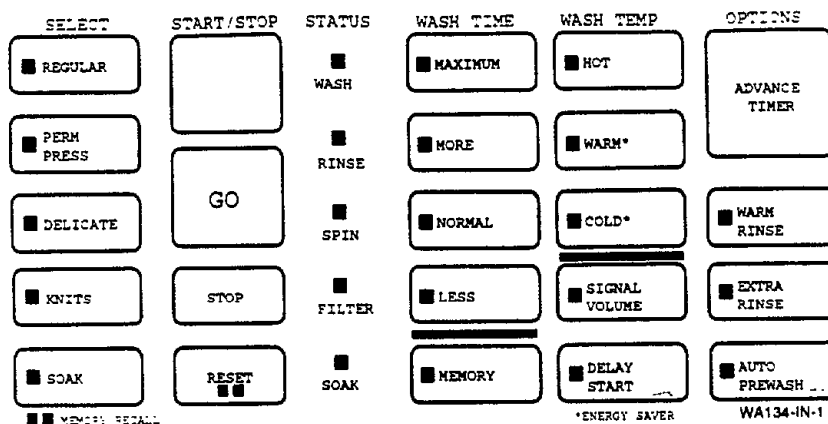

Figure 76
IMPORTANT: This procedure is intended to be used as an aid in diagnosing potential problems with the electronic control, *Figure 76*. Refer to SECTION IV (Service Helps) for diagnosing problems with components other than the electronic control. See *Figure 77* for terminal numbers, connections and color coding.
1. This test routine will only light the LED's (Light Emitting Diodes) pertaining to the hardware model selected. The LED lights are located to the left of the SELECT cycle and OPTIONS pads, *Figure 76*.